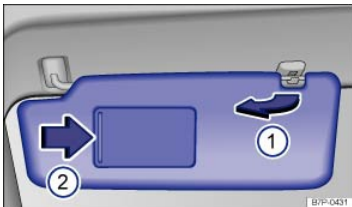

Fig. 84 Sun visor.
- Lift out of mounting and move toward the doors ⇒ *Fig. 84①*.
A vanity mirror is behind a cover in the sun visor. When the cover is slid open ⇒ *Fig. 84②*, the light comes on.